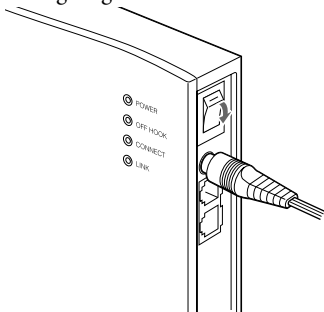

Figure 9. Turning on power
1. Push the power switch on the rear panel in the direction indicated by the arrow in *(Figure 9)*.